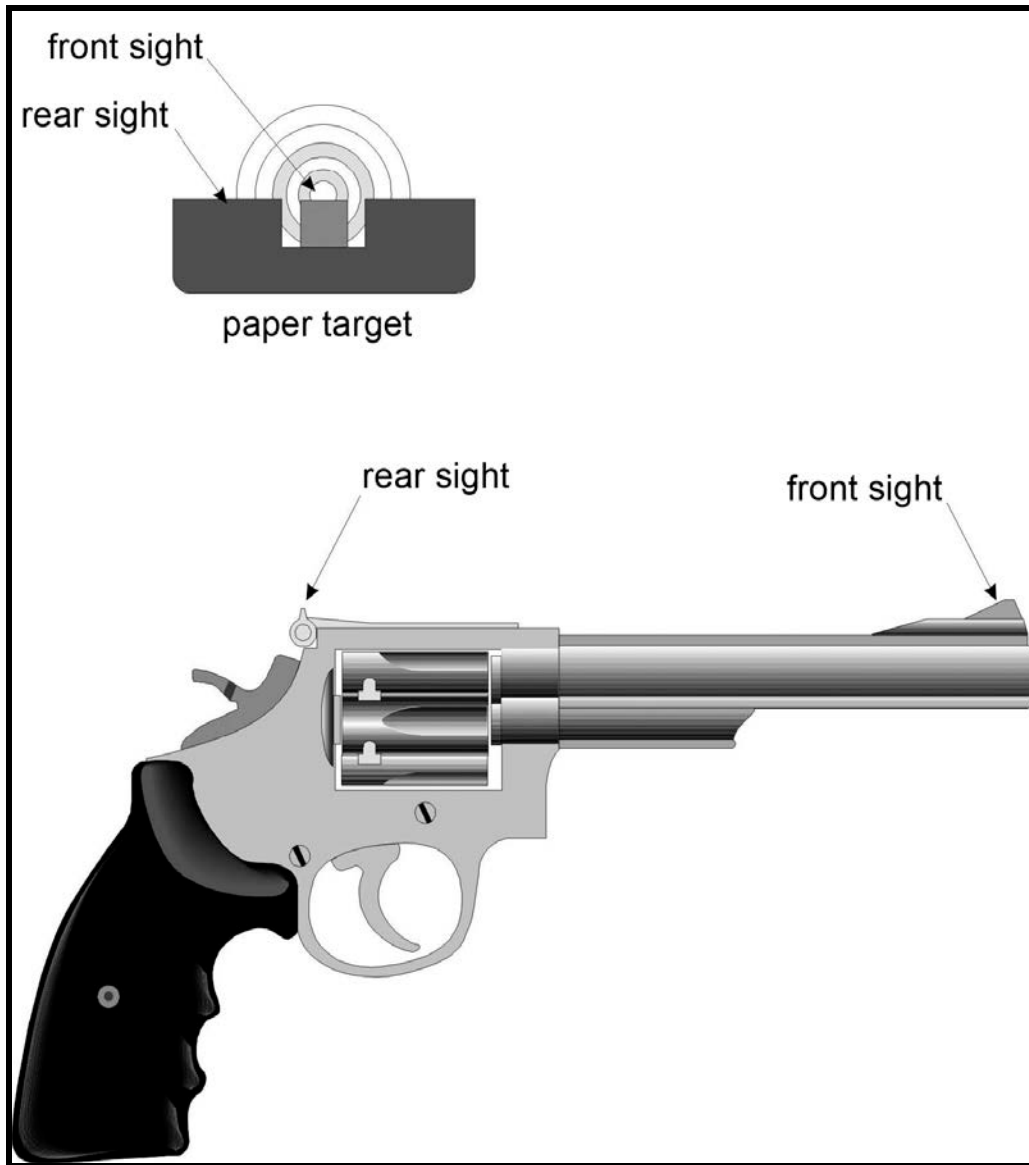

Figure 126. Open sights aligned on a target
- c. You must also learn to correctly use your firearm's sight if your aim is to be accurate. Open sights require you to physically line up both rear and front sights with the target. This process is called sight alignment. When you aim any sight at a target, a sight picture is created (Figure 126).